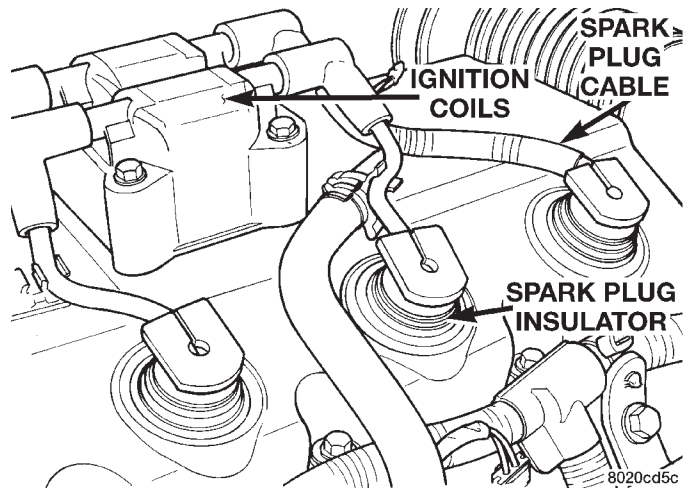

Fig. 18 Ignition Coil Pack
- (2) Remove ignition coil pack (Fig. 18).
- (3) Remove the cylinder head cover bolts.
- (4) Remove cylinder head cover from cylinder head.